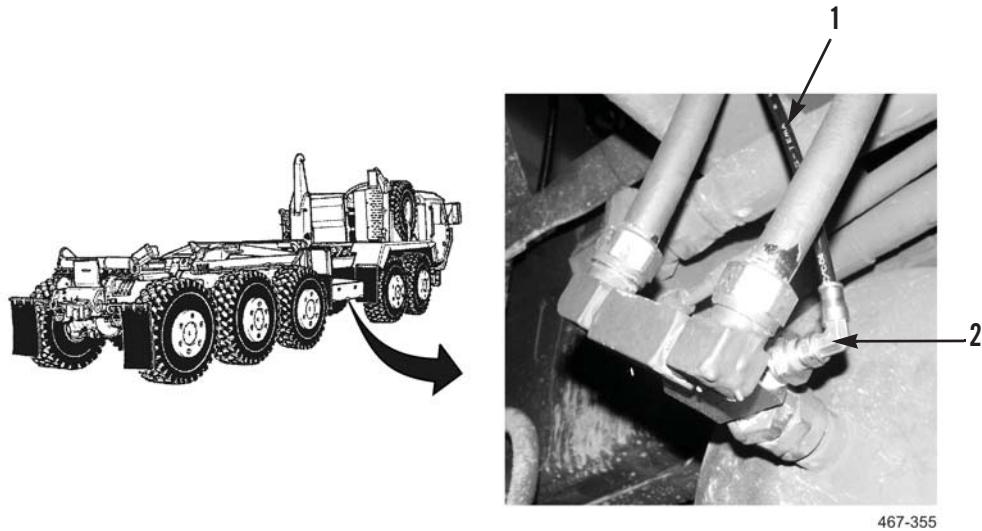

Figure 11. PLS Air Tank Hose Installation
3. Connect pneumatic hose (Figure 11, Item 1) to press-lock fitting (Figure 11, Item 2).